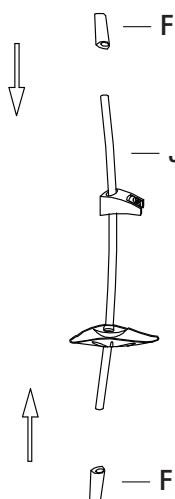

Fig. 9
- Place the adorning covers (F) on both ends of the sliding bar (J), see Fig. 9.